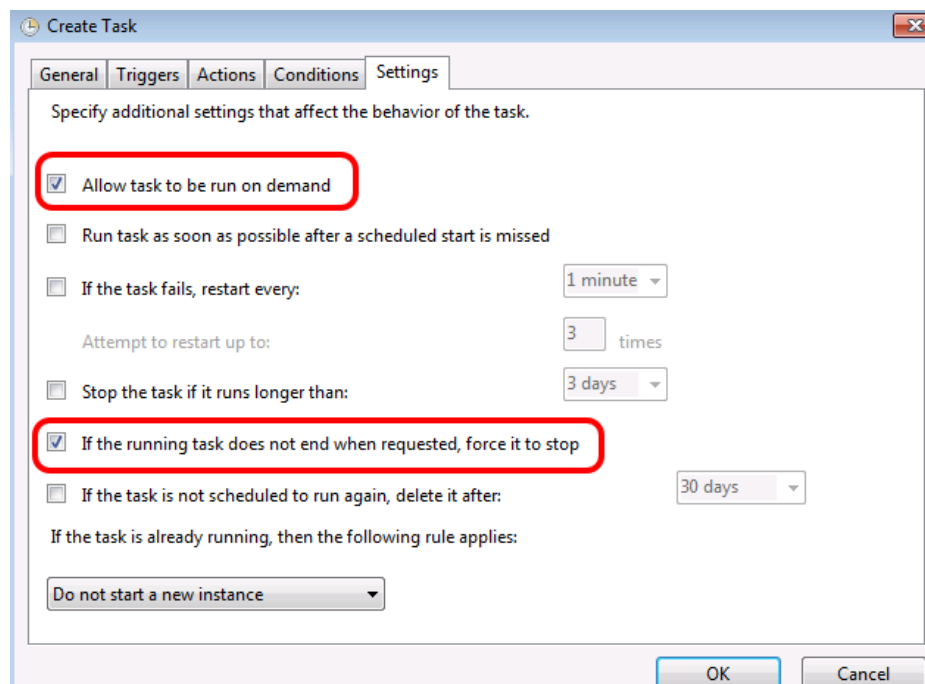

Fig. C.31: New Settings configuration
STEP 7 – In *Create Task* window please select *Tab Settings*, select *Allow task to be run on demand* and *If running does not end when request force it to stop* checkboxes. Confirm with OK (Fig. C.31).